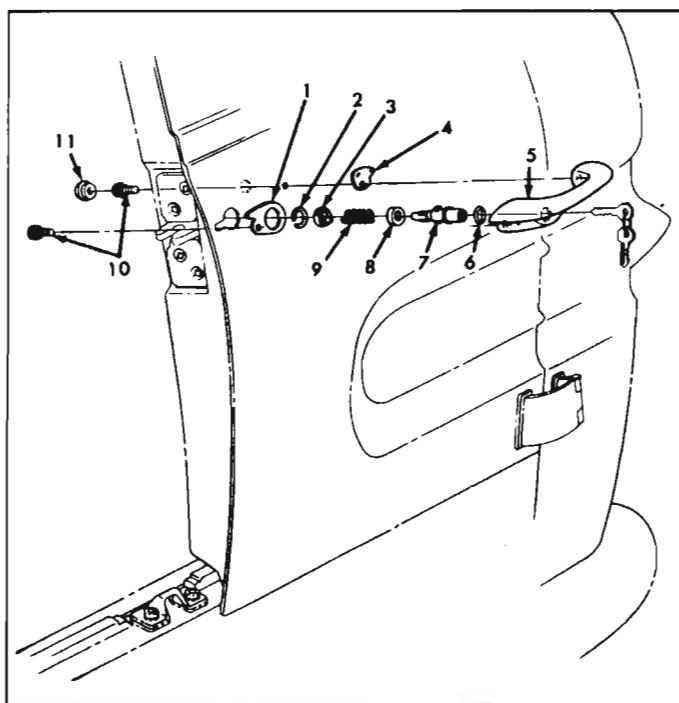

Fig. 10-78a—Rear Door Lock and Handle Assembly
(Refer to Figure 10-78a)
access to door handle outer retainer screw (fig. 10-78a).
4. Remove the handle sealing ring (6) (fig. 10-78a).